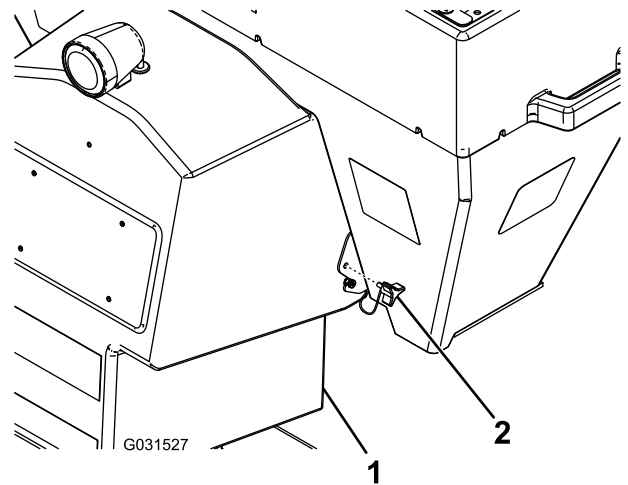

Figure 10
3. Attach the spinner assembly to the spreader and secure it with the thumbscrews (Figure 10).